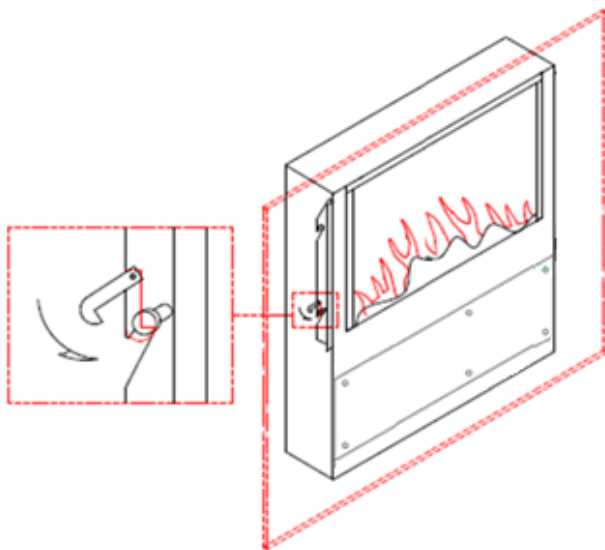

Fig. 3
3. Lift the glass face up to the fireplace. Then lower the face into place so that the brackets on the rear of the face locate either side of the studs on the fireplace. Once in place firmly tighten the locking both. **Figure 3**